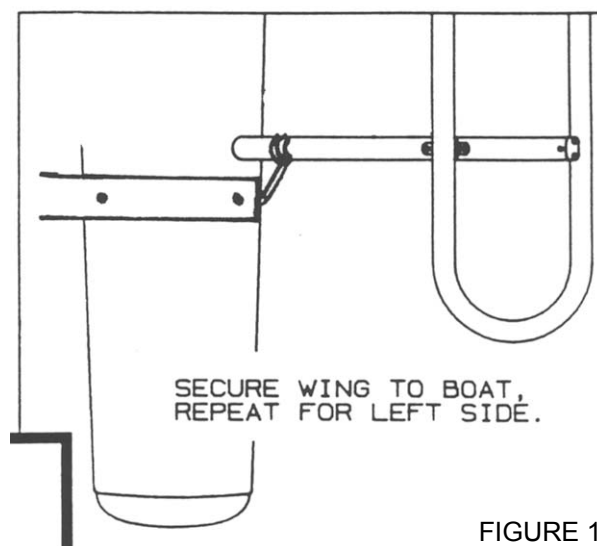

FIGURE 12
8.6 Before sailing, secure the wing legs on the hull with a short piece of line. (FIGURE 12)